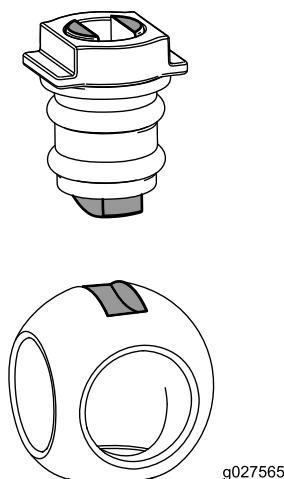

Figure 125
6. Insert the ball into the valve body (Figure 125).
Note: The valve stem should fit inside the ball drive slot. If the valve stem does not fit, adjust the position of the ball (Figure 125).